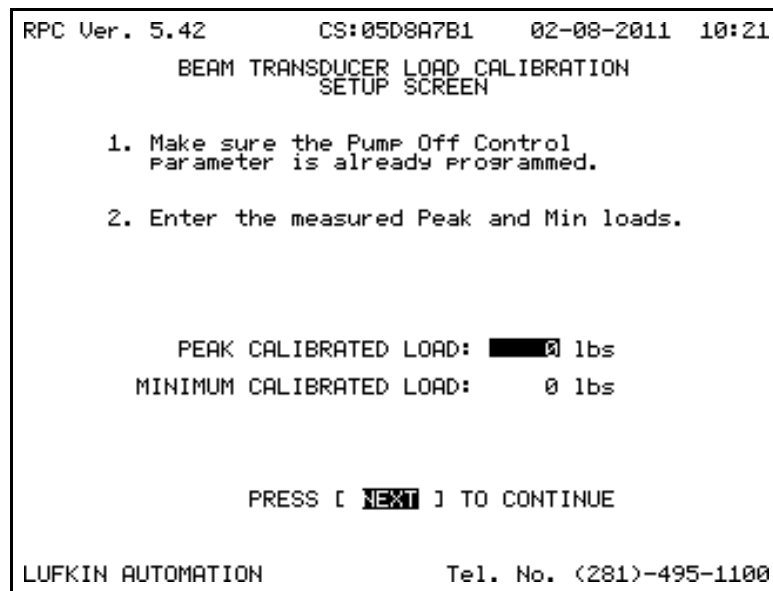

Figure 8-31. Load Calibration Setup Screen
2. Select **3. RPC APPLICATION** to display the RPC Calibration Menu screen and then select **1. LOAD CALIBRATION** to display a Load Calibration Setup screen similar to Figure 8-31.